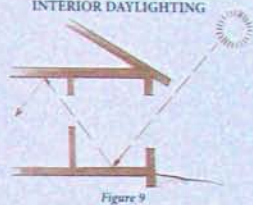

Figure 9
- Bring daylight into dark or rooms from lighter adjacent rooms via interior windows (glazed or open) and reflectors (see figure 9).